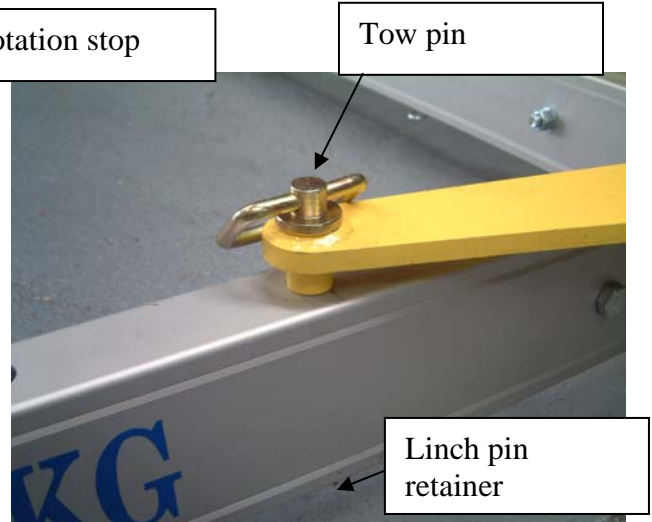

Fig. 2: Boomerang plate to Leg retention
3. Fix the position of each leg by inserting tow pin through boomerang plate end and leg (see Fig 2) and secure tow pins with lynch pins.